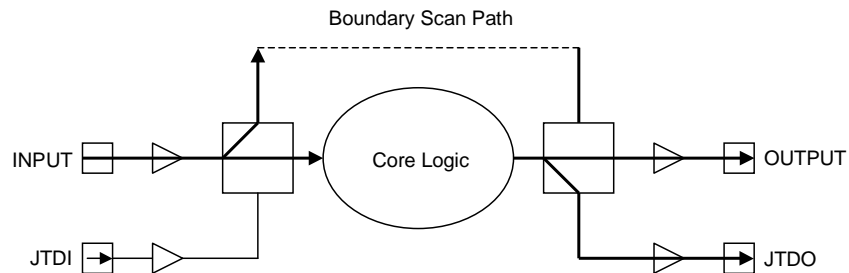

Figure 14.4.2 Test Data Flow While SAMPLE is Selected
- SAMPLE allows the input and output pads of an IC to be monitored. While it does so, it does not disconnect the system logic from the IC pins. The SAMPLE function occurs in the Capture-DR controller state. An example application of SAMPLE is to take a snapshot of the activity of the IC's I/O pins so as to verify the interaction between ICs during normal functional operation. The flow of data for the SAMPLE phase of the SAMPLE/PRELOAD instruction is shown in Figure 14.4.2.